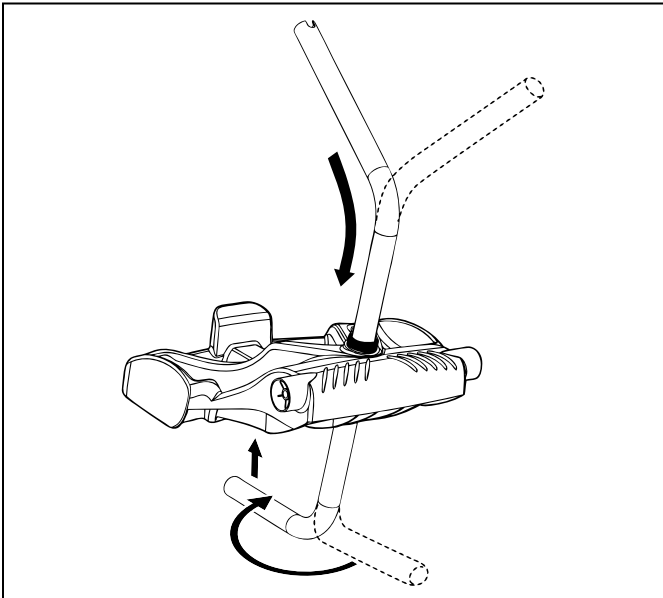

Figure 3. Connect Metal Frame to Base Unit
2. Insert the metal handle frame tubing into the base unit with notch end at the top, then rotate so the bends are away from you. (Figure 3).
3. Push base unit down (Figure 3) so the metal handle frame is seated in the recess on the underside of the base.